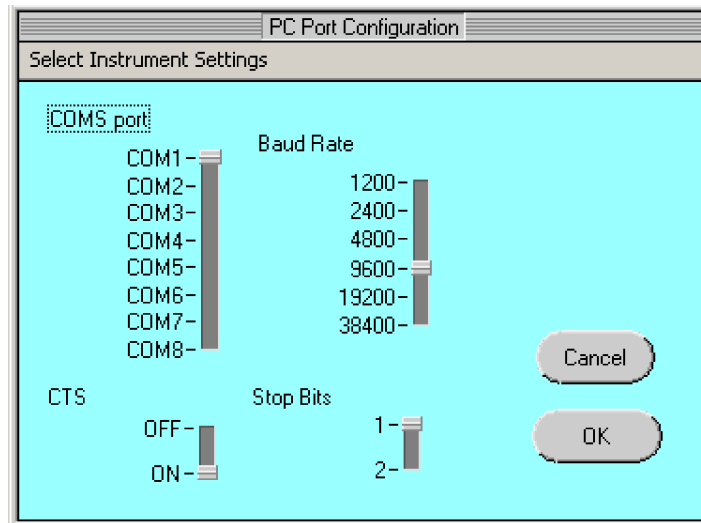

Figure 3-2: Example display - PC port configuration
To use this software with an attached instrument, you must set up the necessary data for the *PC Port Configuration* (Figure 3-2). To make sure it is working correctly, use the test function.
1. On the menu bar, click on *RS232 > Config*. Figure 3-2 shows the window that opens.